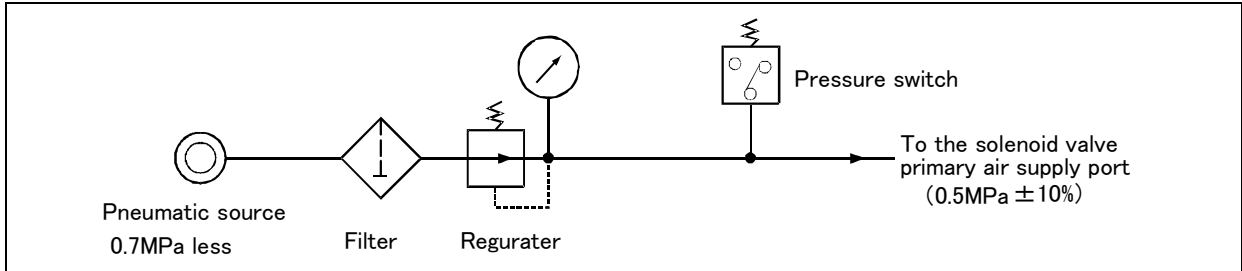

Fig.2-14 : Air supply circuit example for the hand
Fig. 2-14 shows an example of pneumatic supply circuitry for the hand.
- (1) Place diodes parallel to the solenoid coil.
- (2) When the factory pneumatic pressure drops, as a result of the hand clamp strength weakening, there can be damage to the work. To prevent it, install a pressure switch to the source of the air as shown in Fig. 2-14 and use the circuit described so that the robot stops when pressure drops. Use a hand with a spring-pressure clamp, or a mechanical lock-type hand, that can be used in cases where the pressure switch becomes damaged.